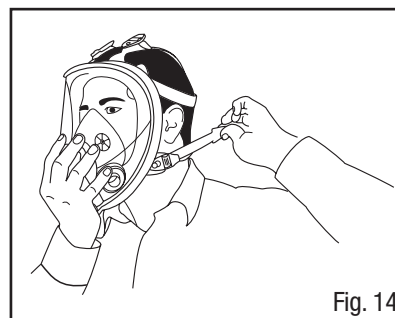

Fig. 14
4. Tighten the bottom straps one at a time. Be careful to tighten both sides equally (Fig. 14).